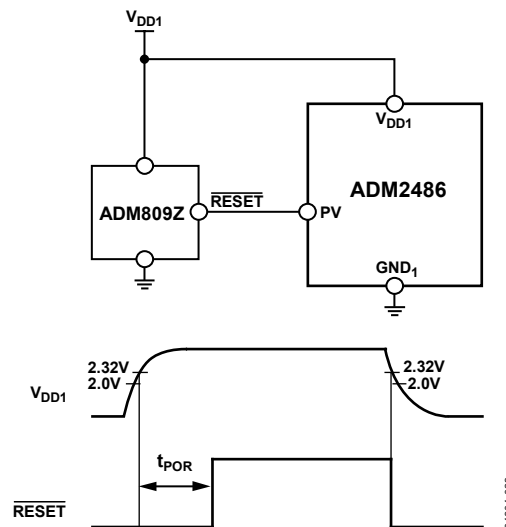

Figure 30. Driving PV with ADM809Z
To avoid chatter on the A and B outputs caused by slow power-up and power-down transients on  $V_{DD1}$  ( $>100 \mu\text{s/V}$ ), the device features a power\_valid (PV) digital input. This pin should be driven low until  $V_{DD1}$  exceeds 2.0 V. When  $V_{DD1}$  is greater than 2.0 V, this pin should be driven high. Conversely, upon power-down, PV should be driven low before  $V_{DD1}$  reaches 2.0 V (see Figure 30).